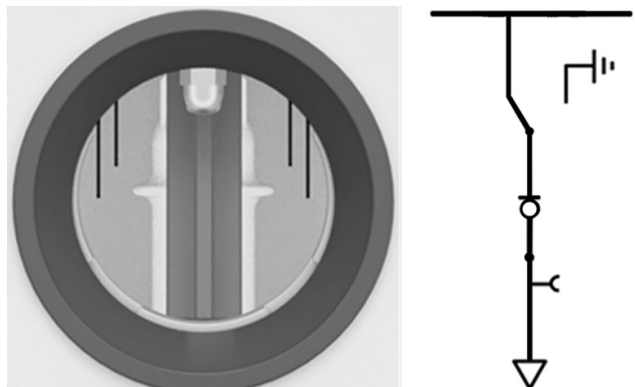

Figure 4-3: Service position - (VI closed and change-over in busbar position)
1. Turn the selector control knob (7) clockwise until the control point of the change-over switch (8) is revealed.
2. Place the operating handle with the arrow pointing down in the control point of the change-over switch (8). Switch the change-over switch to the busbar position by turning the handle anti-clockwise as far as it will go, i.e. to approximately 190°. Additional resistance will be noticeable towards the end of this rotation. The handle cannot be removed until the busbar position of the change-over switch has been reached.
3. Remove the handle and check that the position indicator of the change-over switch (9) indicates the busbar position which can be verified via the inspection windows.
4. Turn the selector control knob (7) anti-clockwise until the switch control point (6) is revealed.
5. Place the operating handle with the arrow pointing up in the switch control point (6). Switch the cable to the busbar by turning the handle clockwise as far as it will go, i.e. to approximately 190°. The mechanism will switch audibly at that point.
6. Remove the handle and check that the position indicator (5) of the switch indicates the ON position. In the inspection window, the closed operating position is also visible; see figure 4-3.
7. Turn the selector control knob (7) back to the central position. Openings (6) and (8) will be covered and are non-accessible.